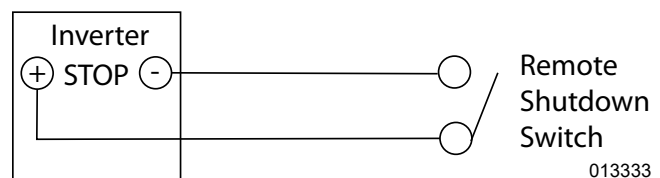

Figure 5-4. PV Only Remote Shutdown Switch Wiring
3. See Figure 5-4. Use 20 – 14 AWG two-conductor cable with insulation rated for 600 V to connect a switch that is lockable, UL listed, and rated for at least 12 VDC, 5 mA (consider a standard single-pole light switch in a weather proof box with a lockable lever).